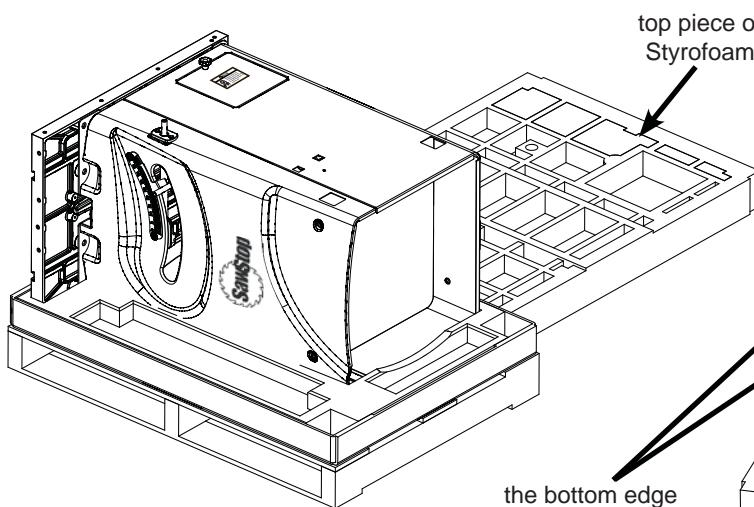

Fig. 2a
2. Take the top piece of Styrofoam and place one of its short sides next to the back of the saw, as shown in Fig 2a. Place the Styrofoam so that the top edge of the table and the bottom edge of the saw